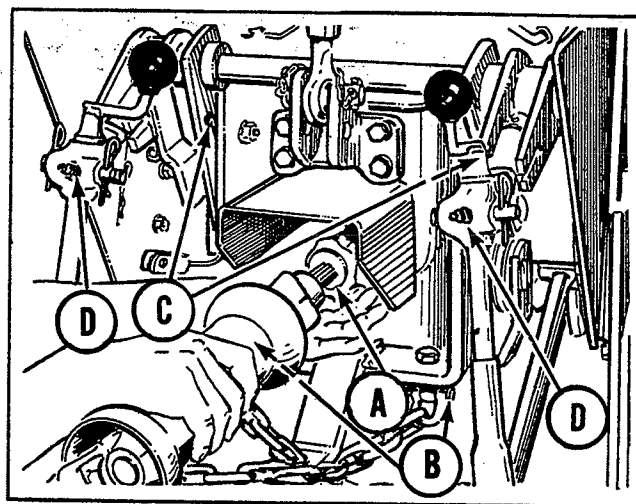

Figure 52. Attaching a power take off shaft.
See figure 52. The restraining chains can be moved from the eyebolts (B) to the frame holes (C) to hold the three-point hitch in the raised position while the hydraulic couplings are being disconnected or the hydraulic cylinder removed to be used in the front.
(Figure 52) If the attachment is driven by the rear power take off drive, hook up the power take off drive shaft at this time before attaching the turnbuckle link. **CAUTION: BE SURE THE TRACTOR ENGINE IS STOPPED.** Start the drive shaft spline in the internally splined power take off. While holding the drive shaft in place with one hand, use the other to turn the outer locking ring (A) of the power take off drive clockwise and hold it there. Slide the power take off shaft into the drive and release the locking ring. Insure the locking pins have seated in the groove of the power take off drive by attempting to pull the drive shaft out. To remove the drive shaft, turn the locking ring clockwise and pull the drive shaft out.